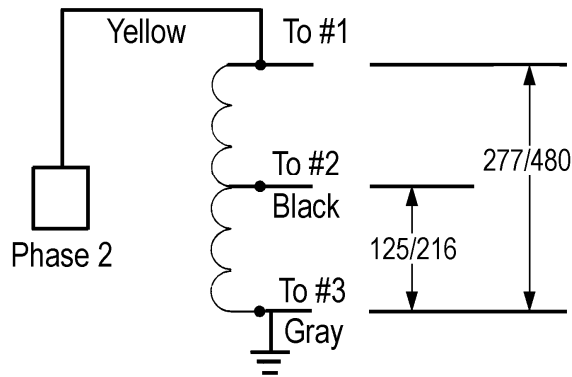

FIGURE 3
- B. Installation of an autotransformer is required when converting from 277/480V to 120/208V. The autotransformer is connected between the network side Phase 2 and the ground (see Figure 3).
- BLACK** Connect as directly as possible to the Phase 2 bus on the network side of the network protector (120V nominal). On 277/480V applications, connect to terminal No. 2 or black lead of the autotransformer (see Figure 3).
- GRAY** Connect solidly to a good ground. On 277/480V applications, connect to terminal No. 3 or gray lead of the autotransformer and to a good ground (see Figure 3).